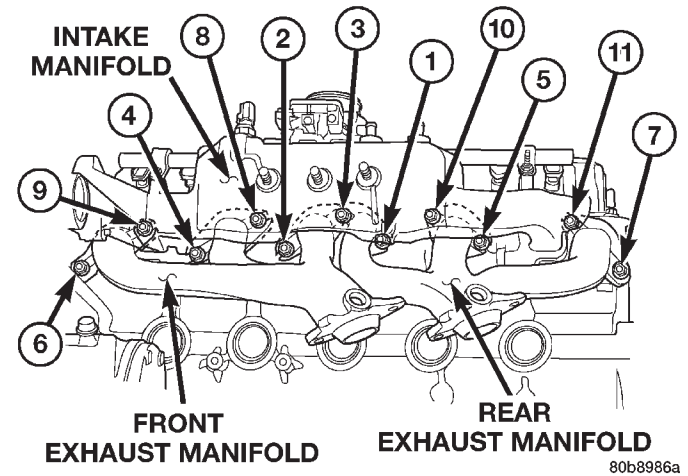

Fig. 32 Intake and Exhaust Manifolds—4.0L
- (1) Install a new engine exhaust/intake manifold gasket over the alignment dowels on the cylinder head.
- (2) Position the engine exhaust manifold to the cylinder head. Install fastener Number 3 and finger tighten at this time (Fig. 32).
- (3) Install intake manifold on the cylinder head dowels.
- (4) Install washer and fastener Numbers 1, 2, 4, 5, 8, 9, 10 and 11 (Fig. 32).
- (5) Install washer and fastener Numbers 6 and 7 (Fig. 32).
- (6) Tighten the fasteners in sequence and to the specified torque (Fig. 32).